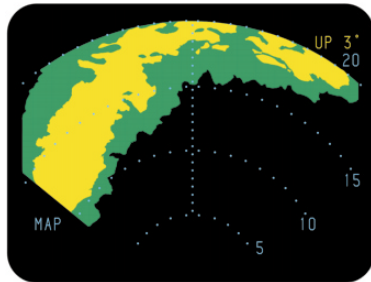

Figure 3
10. If the pattern shifts as shown in Figure 3, decrease the tilt angle until the edge of the video pattern reaches the same position as the center was before the roll maneuver. Note the new position of the tilt control. Proceed to step 11.